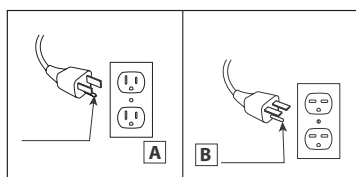

Fig.1
1. Align the mounting tab into the bracket and lower the leg into place. (Fig 1)
12. Connect to properly grounded outlets only. This heater is for use on 120 volts. The cord has a plug as shown at A in Fig. 1. Do not use a 2 prong adapters. Never use with an extension cord or relocatable power tap (outlet/power strip).